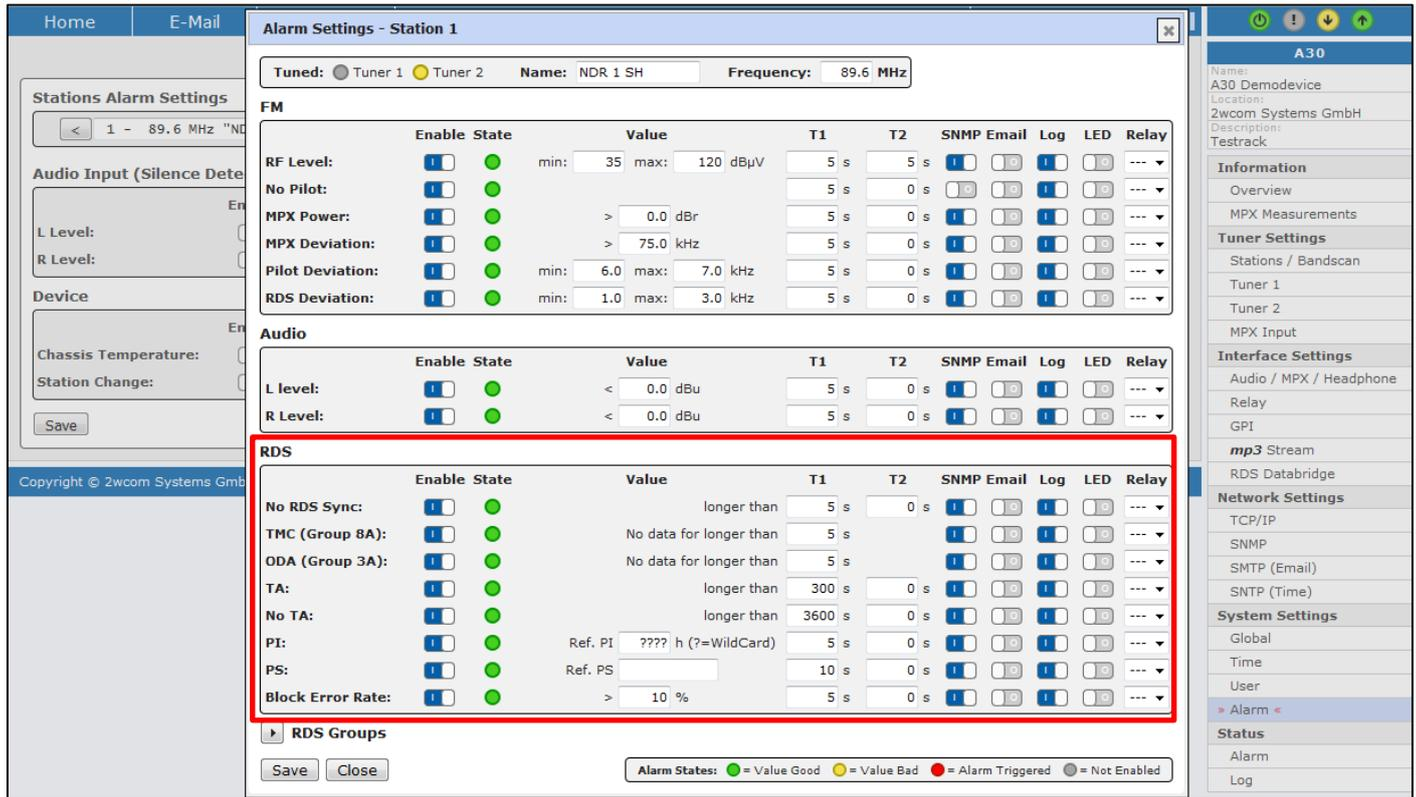

Fig. 28: Alarm settings – indication of the RDS data in the internal signal
3. Enable each RDS alarm function separately in the corresponding checkbox "Enabled", if this parameter should be monitored (see Fig. 28).
2. Enable each alarm function separately in the corresponding checkbox "Enabled", if this parameter should be monitored (see Fig. 28).